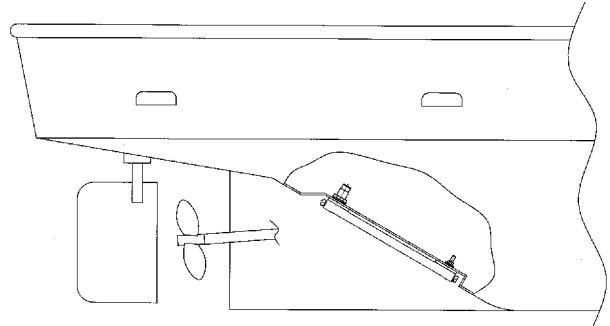

FIG. 9 U-Flow unit with E1 SERIES™ end mounted zinc anodes mounted on rake of vessel.
- 1.6.3 When installing a multiple-pass unit on an incline, make sure that the nozzles are at the high end to avoid air entrapment. See Figure 9.